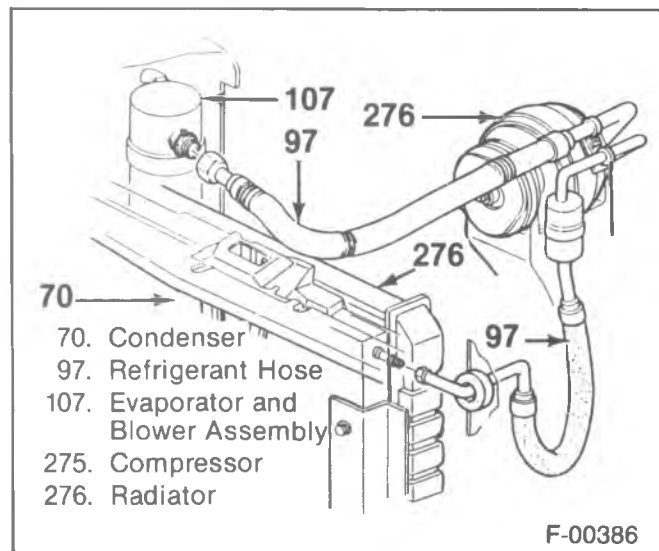

Figure 67—5.0L and 5.7L Engines Refrigerant Hose Assembly
2. 5.0L and 5.7L Engine (figure 67).